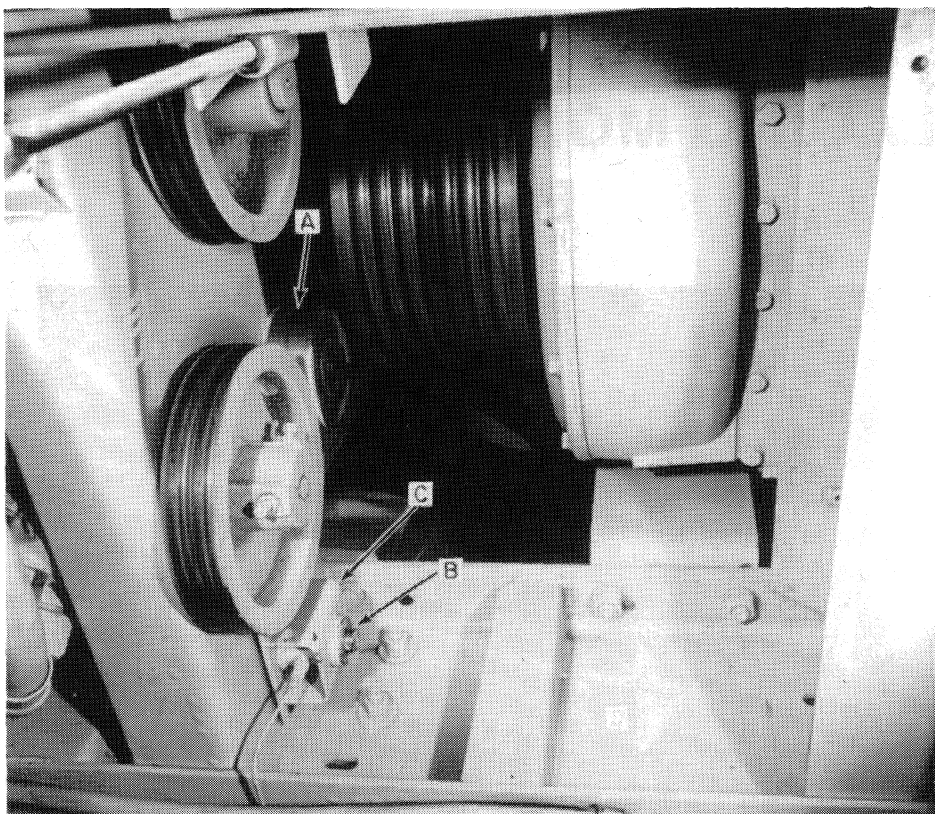

FIGURE 1-2
3. Remove the hydraulic pump drive belt idler, A, Figure 1-2, by removing the cotter pin, B, and unbolting the mounting bracket, C.